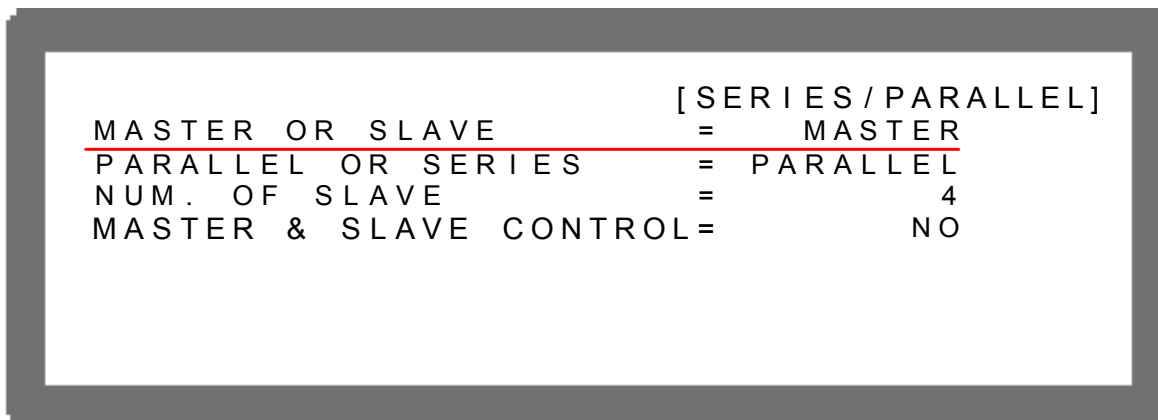

Figure 3-38
2. Use the numeric () key or “Rotary” () knob to set MASTER as Figure 3-38 shows.